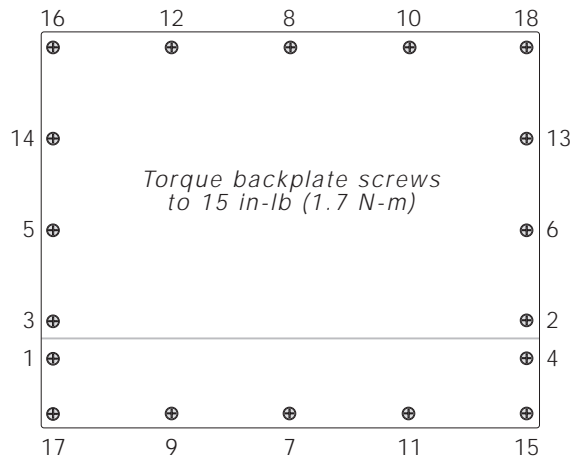

Figure 3. **920i** Enclosure Backplate
8. Position the backplate over the enclosure and reinstall the backplate screws. Use the torque pattern shown in Figure 3 to prevent distorting the backplate gasket. Torque screws to 15 in-lb (1.7 N-m).